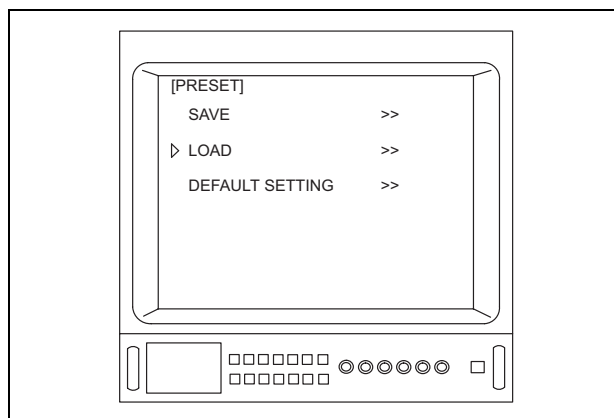

Figure 5.80
4. Depress the menu switches “” or “”, or the “” key on the keyboard to move the arrow “” to “LOAD”.(see Figure 5.80).